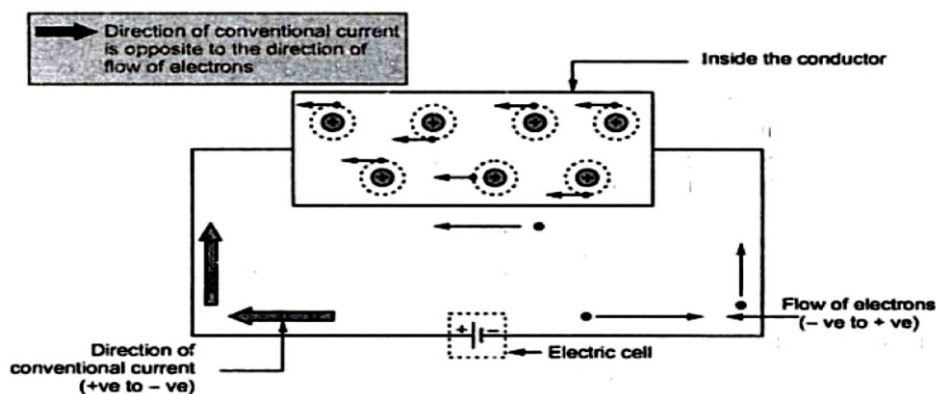

Fig. 1.2: The flow of current.
- The small electrical effort, externally applied to such conductor makes all the free electrons to drift along the metal in a definite particular direction. This direction depends on how the external electrical effort is applied to the conductor. Such physical phenomenon is represented in Fig.1.2.